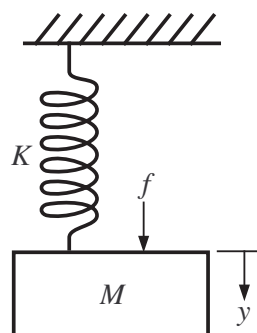
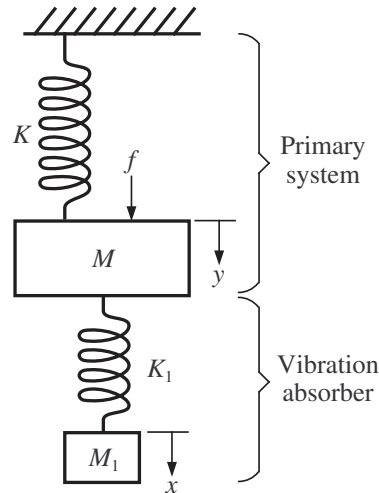

Figure 2: Model of the motor mounted on cantilever.
Figure 3: Model of the system with the vibration absorber.
The cantilever beam can be modeled as a spring-mass system as shown in Figure 2. For this model, the cantilever is of mass M , and behaves like a spring with spring constant K . The force generated by the motor causes the cantilever to vibrate in a certain manner. One way to reduce or remove the vibrations on the cantilever is to attach a vibration absorber to the cantilever so that the dynamical properties of the cantilever, together with the vibration absorber, are altered. The vibration absorber should be designed with a certain mass and material property. The model for the system with the vibration absorber is shown in Figure 3. You may assume that the mass of the motor has no effect on the bending moment of the cantilever.
- (1) Using Newton's second law of motion, derive the differential equation governing the motion of the cantilever (Figure 2) as it vibrates due to the force generated by the motor. Essentially, obtain the relationship between the displacement of the cantilever, $y(t)$ and the force, $f(t)$, generated by the rotation of the motor. You may assume that the tension of the spring at any time t is equal to $Ky(t)$.
- (2) Derive the transfer function, $G_1(s)$ (between $Y(s)$ and $F(s)$), of the cantilever. Find the poles of $G_1(s)$.
- (3) Assume that the cantilever is at equilibrium with $y(0^-) = 0$ and $\dot{y}(0^-) = 0$, before the motor was started at $t = 0$. Calculate the response of the cantilever when the vibration from the motor has a frequency, $\omega_f = 10$ rad/s. Assume the force to be sinusoidal of amplitude $A = 1$.
- (4) Explain what happens to the cantilever when the vibration from the motor is of frequency, $\omega_f = \sqrt{\frac{K}{M}}$.
- (5) The vibrations are expected to become violent as the forcing frequency reaches a certain value. This violent resonance condition can be controlled by adding a small mass to the system. Suppose the *vibration absorber* represented by the parameters K_1 and M_1 has been added and the system can be modelled as shown in Figure 3.
Suppose the equations of motion describing the behaviour of the system in Figure 3 are as follows :